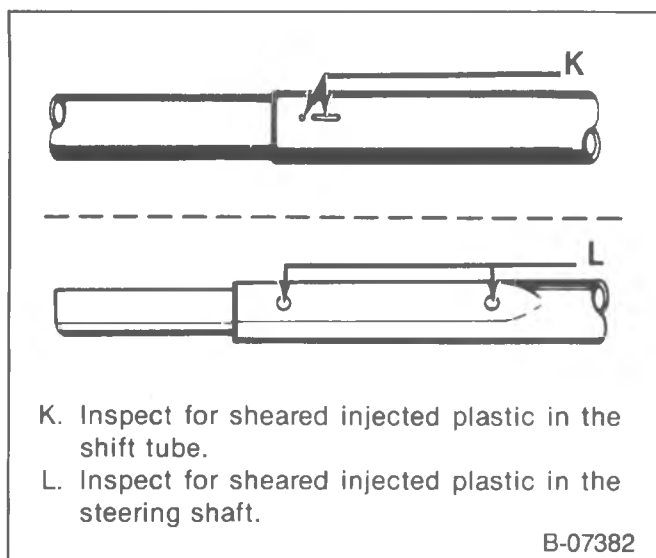

Figure 3—Steering Column Collapse Inspection
- Visually inspect for sheared injected plastic in the shift tube, and the steering shaft (figure 3). If either one or both are sheared, replace with new parts.